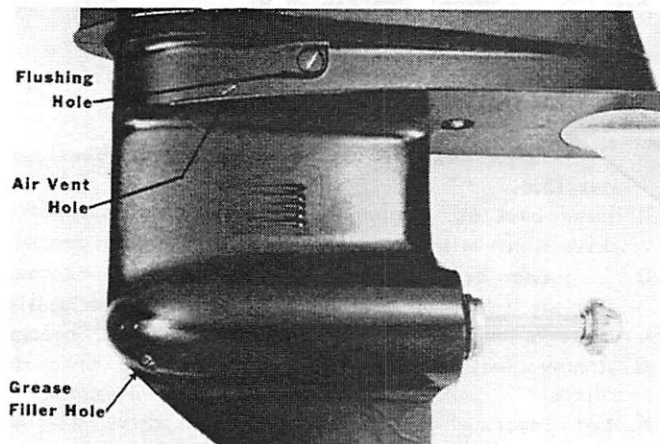

Figure 1. Filler Hole and Vent Screw
1. Drain EXTRA-DUTY Lubricant from gear housing by removing filler hole screw and vent screw. (Figure 1) Do not lose washers. Replace washers and screws after draining.